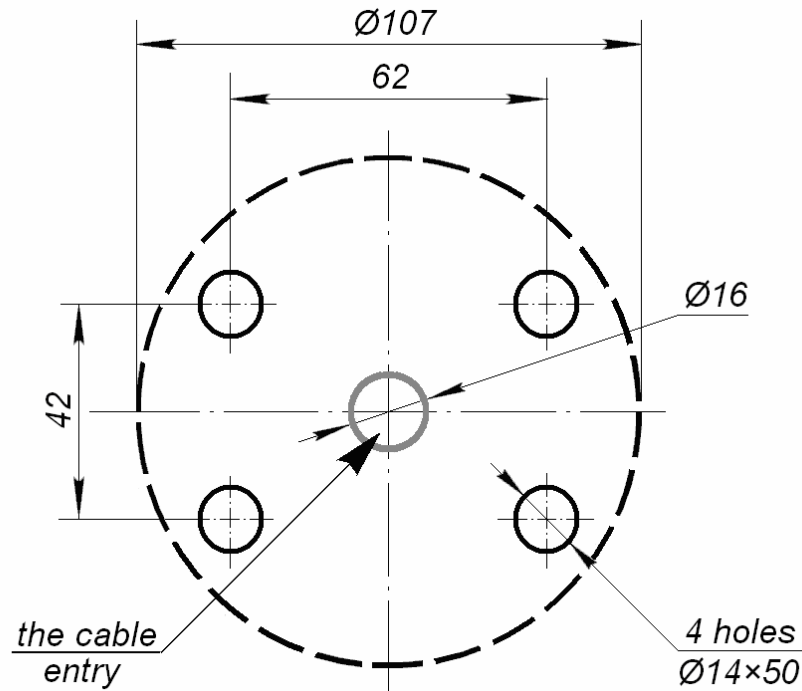

Figure 3. Mounting hole pattern for IRP-01.2 installation
8. Drag the cable through the central hole in the mounting base with 16 mm diameter (Fig. 3).